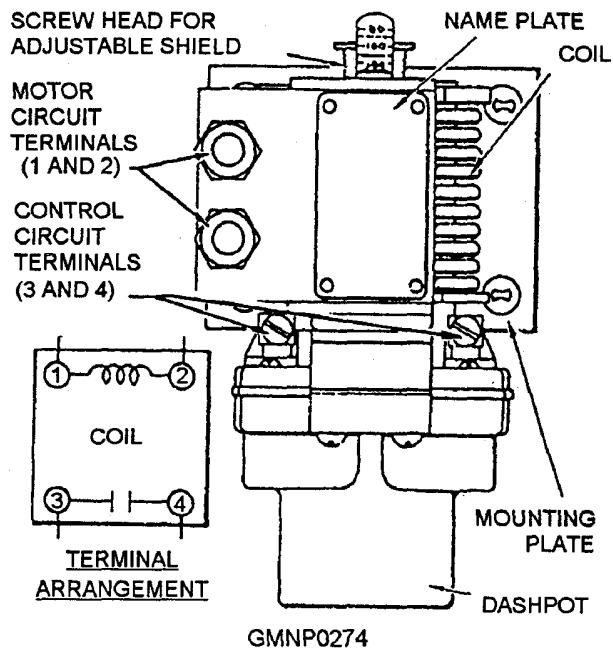

Figure 5-12.—Overload relay.
**OVERLOAD RELAY.**— The overload relay (fig. 5-12) consists of a coil, a plunger, a dashpot, and a pair